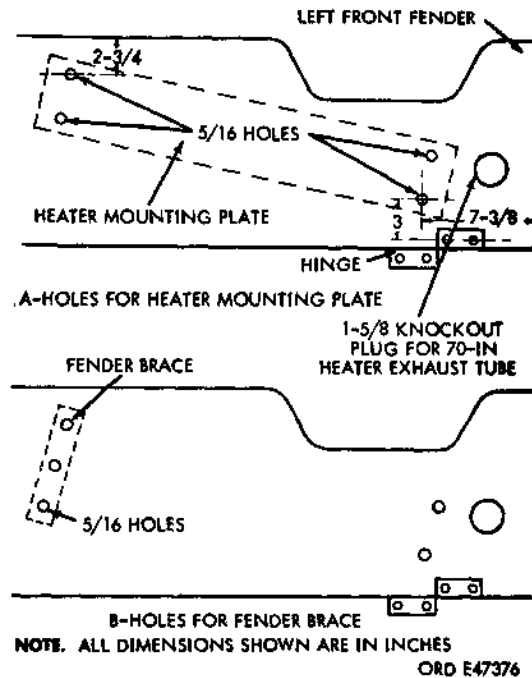

Figure 587. Holes in fender for heater mounting plate and fender brace
- (1) Lower the hood left-side panel. Using the dimensions shown in figure 587, locate and drill a 5/16-inch hole near the hinge. Install the heater mounting plate
- (2) Use the fender brace (U, fig. 585) as a template and locate the fourth hole in the front fender, as shown in B, figure 587. Drill the four holes with a 5/16-inch drill.
- (3) Remove the 1-5/8-inch knockout plug for 70-inch heater exhaust tube (A, fig. 587).